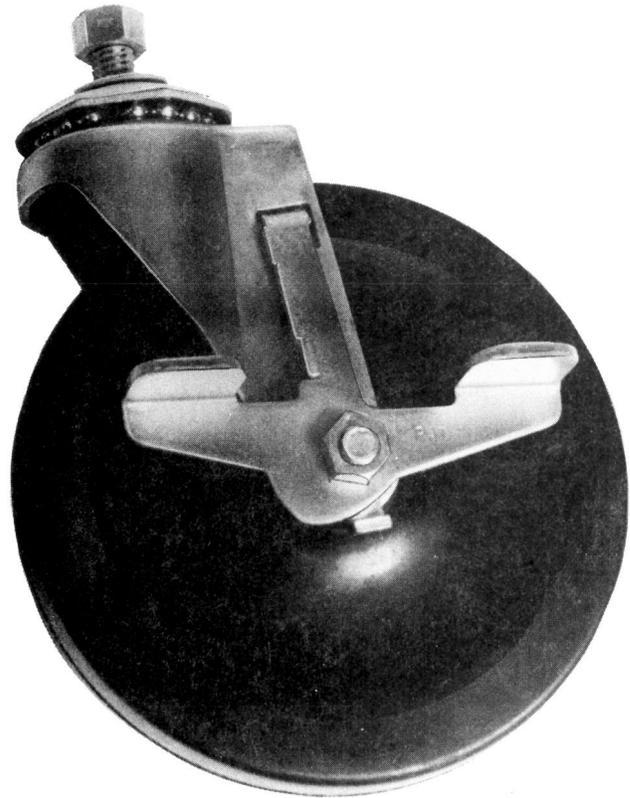

Fig. 7—KS-21428, List 101 Caster Kit
**Note:** The List 101 caster (Fig. 7) is a replacement for the old gray-colored obsolete caster which is equipped with a 3/8-inch diameter mounting shaft. It should not be used as a replacement for the List 10 caster which has a 5/8-inch diameter mounting shaft.
- (1) To remove a List 101 caster, or an obsolete gray-colored caster, remove one 3/8-16 hex nut and one 3/8-inch lockwasher.
- (2) To install, use reverse procedure.